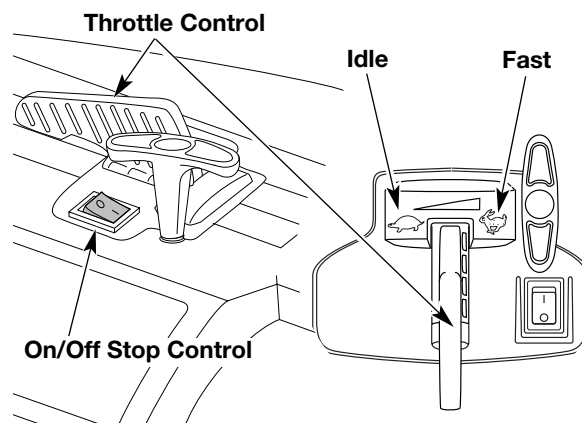
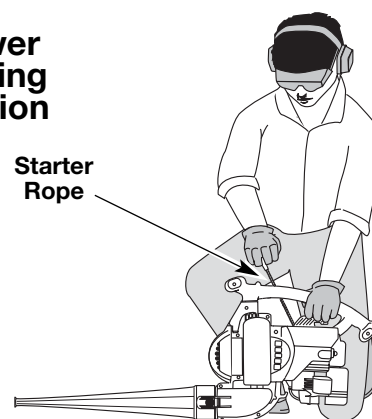
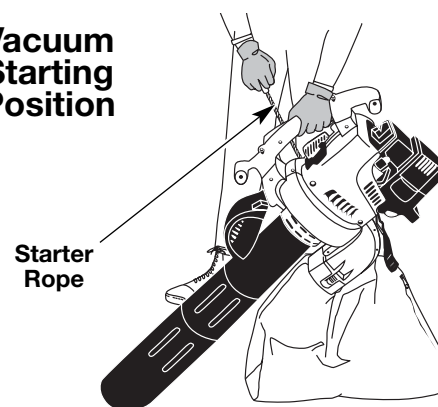

Fig. 10
Fig. 12
Fig. 13
WARNING: Avoid accidental starting. Make sure you are in the starting position when pulling the starter rope (Fig. 12 and 13). To avoid serious injury, the operator and unit must be in a stable position while starting.
3. Place the unit in the starting position (Fig. 12 as a blower, Fig. 13 as a vacuum). *Move the throttle control to the **idle position** (🐢) (Fig. 10).* This is especially important during cold starting.